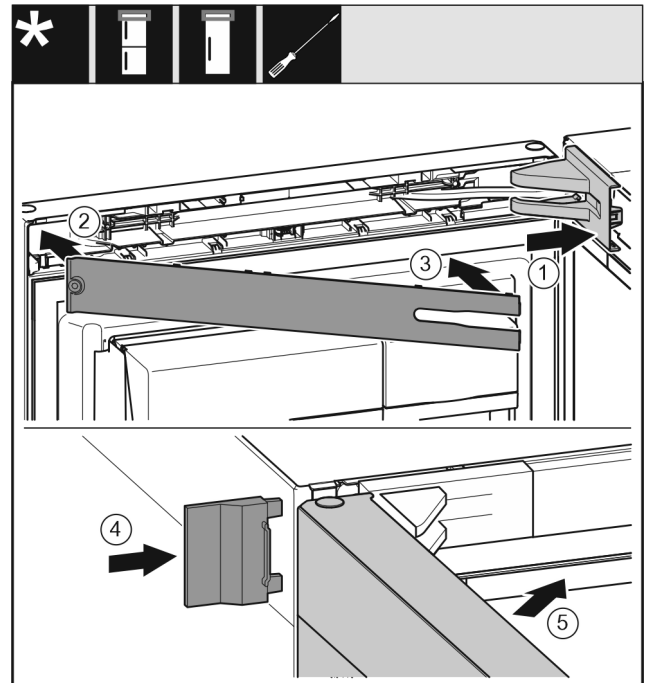

Fig. 53
- ▶ Put the swap bearing block cover *Fig. 53 (1)* on and engage, push apart carefully if required.
- ▶ Fit the trim *Fig. 53 (2)*.
- ▶ Screen *Fig. 53 (3)*
- ▶ Push the outer cover *Fig. 53 (4)* on.
- ▶ Close the upper door *Fig. 53 (5)*.